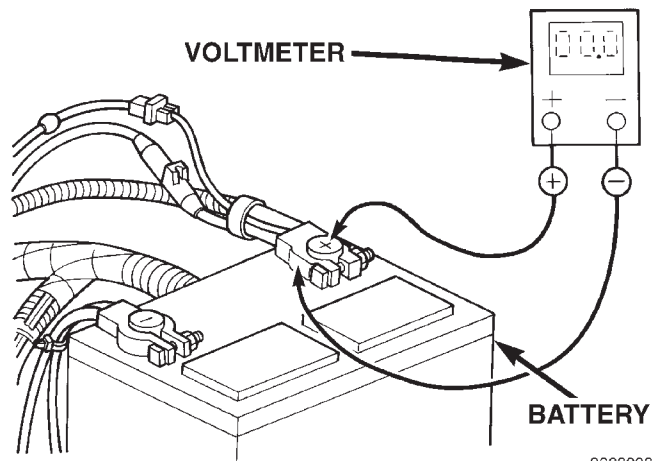

Fig. 3 Test Battery Positive Connection Resistance - Typical
(2) Connect the positive lead of the voltmeter to the battery positive terminal post. Connect the negative lead of the voltmeter to the battery positive cable clamp (Fig. 3). Rotate and hold the ignition switch in the Start position. Observe the voltmeter. If voltage is detected, correct the poor contact between the cable clamp and the terminal post.